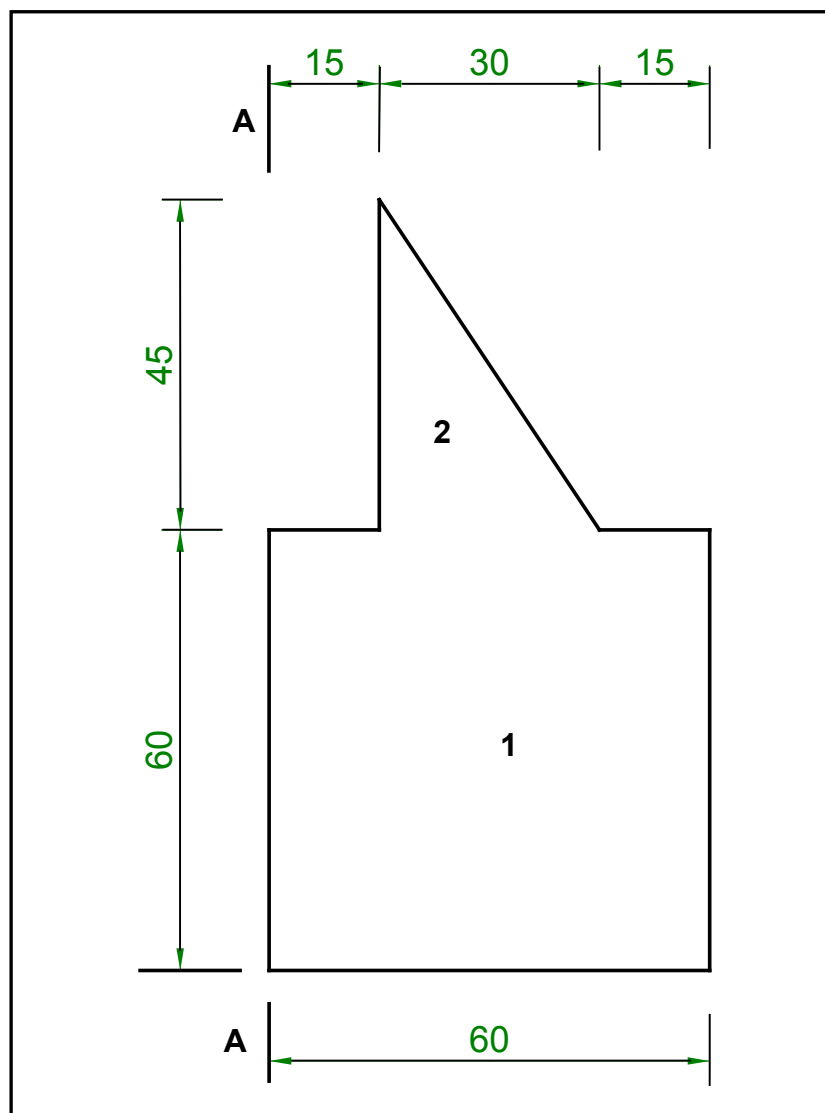

FIGURE 5.1
5.1 FIGURE 5.1 below shows a shaped lamina. All dimensions are in millimetres.